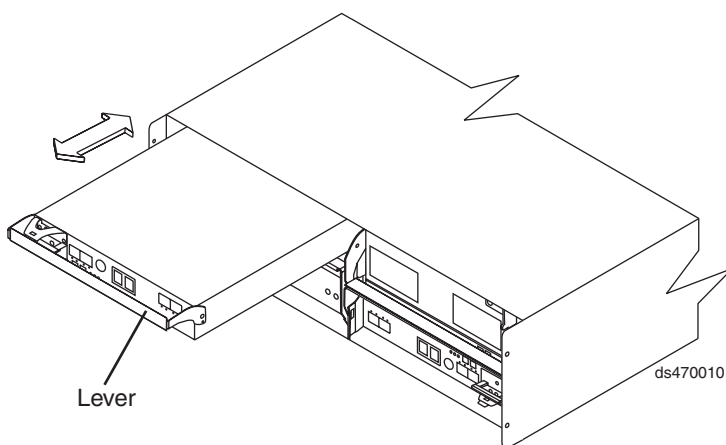

Figure 107. Removing a controller from the DS4700 Express
9. Slowly pull the lever away from the chassis to remove the controller from the bay. Use two hands when releasing the controller levers. Figure 107 shows the controller sliding from the storage subsystem chassis.